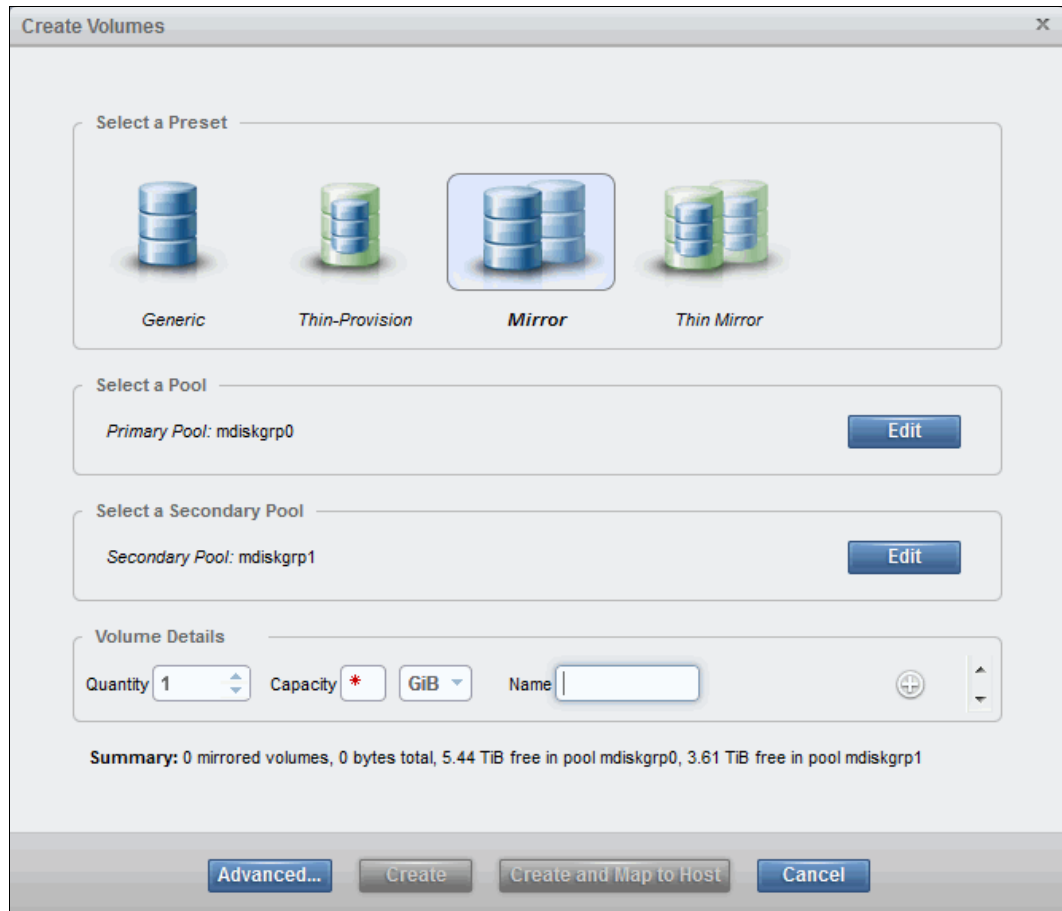

Figure 5-12 Creating mirrored volumes using the Create Volumes wizard
1. Select **Mirror** as the preset, as shown in Figure 5-12.
2. From the list shown in Figure 5-12, for each mirrored copy, select a pool to provision storage from. To take full advantage of the redundancy offered by the mirroring feature, each copy should ideally be provisioned from separate pools.
3. The view shown in Figure 5-12 opens. From here, you can choose how many mirrored pairs to create, the capacity of each volume, and what to name the volumes.